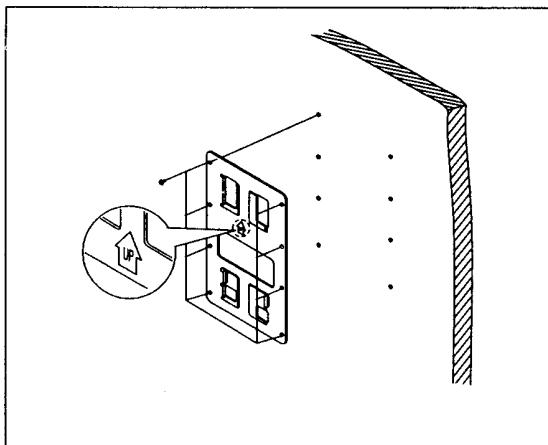

Figure 3-11 Wall Mount #7
8. Attach the BRKT Mount to the wall firmly with the eight screws. Be sure that the BRKT attached properly to match the direction of arrow as illustrated in the Figure 3-11. And the BRKT Mount should be always fixed vertically. (Figure 3-11)